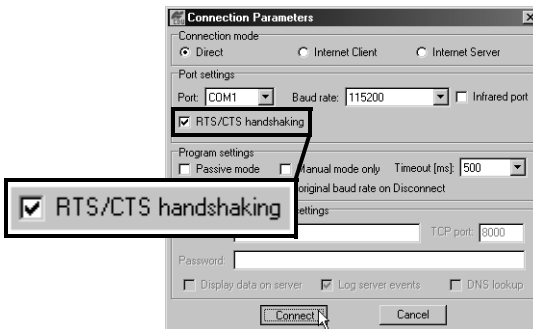

Figure 4-2. Connection Parameters – RTS/CTS Handshaking
2. On the *Connection Parameters* dialog box, enable *RTS/CTS handshaking* (Figure 4-2).